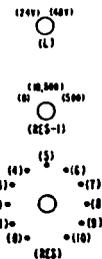

FIGURE 1
6.21 Prepare the ITE-4011 test set with pin jack connections as shown in Figure 1. Operate the STT key on the test set.